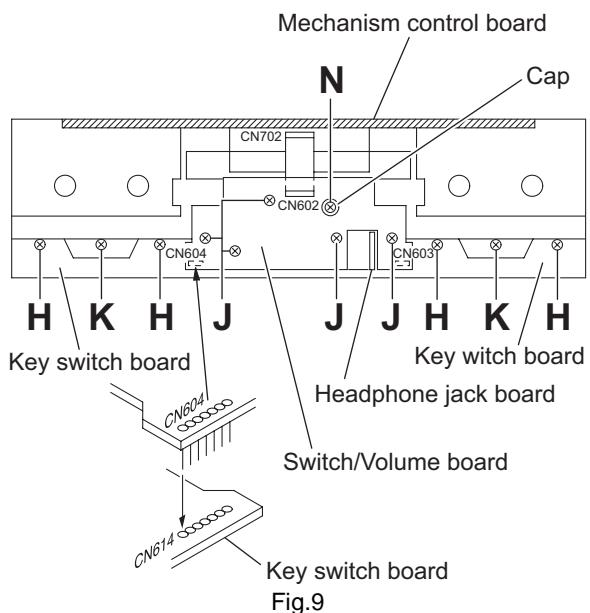

Fig.9
3.1.6 Removing the switch & volume board (Fig.9)
3.1.7 Removing the headphone jack board (Fig.9)
- (1) After removing the switch/volume board, pull the headphone jack board outwards while pushing it down toward the bottom side to remove it.
3.1.8 Removing the key switch board (Fig.9)